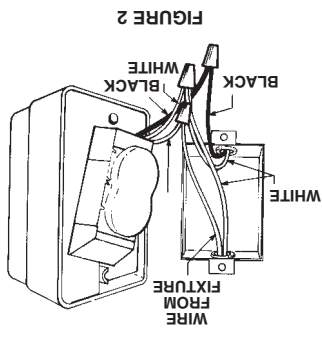

FIGURE 2
3. Connect red timer wire to wire from fixture using wire connector. Connect black timer wire to the "hot" (usually black or red) wire in junction box using wire connector. Cut white wire in junction box (or open splice) and strip 1/2" of insulation on both wires. Connect white timer wire to white wires in junction box using wire connector. (See Fig. 2)
6. Place all wires inside junction box. Fit timer over junction box first, making sure that all wires and twist on wire connectors clear the back of timer motor. DO NOT FORCE. Next, install timer using (2) mounting screws furnished.